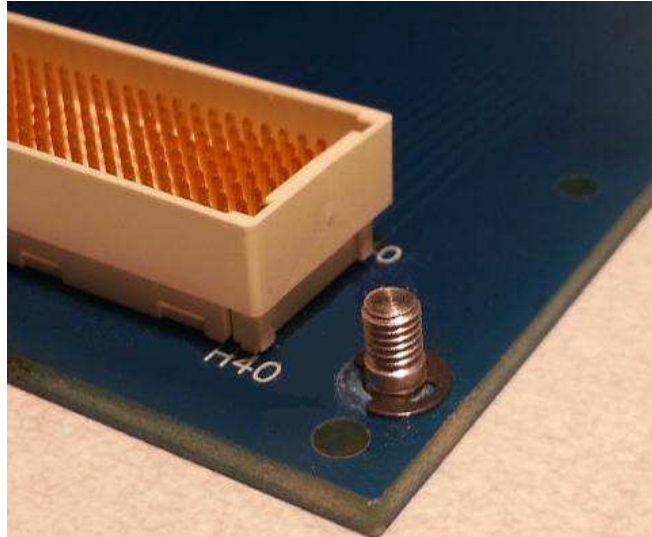

Figure 16
3. Jack screw is now installed on pc board. See Figure 16.